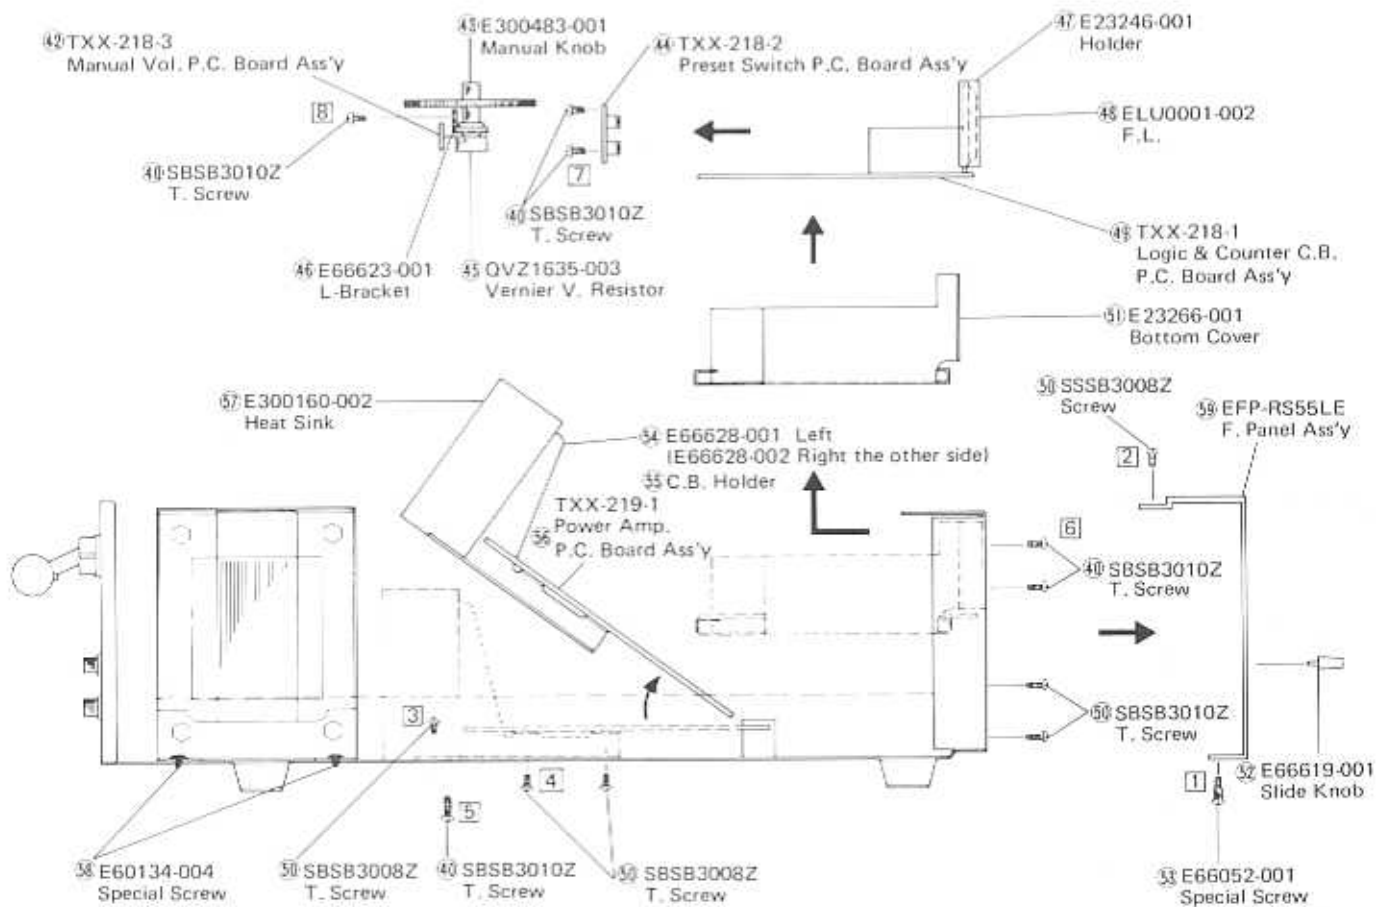

Fig. 6
1. Remove 3 Screws **1** of Fig. 6
2. Remove 3 Screws **2** of Fig. 6
1. Remove 2 screws **3** of Fig. 6.
2. Remove 4 screws **4** of Fig. 6.
3. Remove 2 screws **5** of Fig. 6.
4. Pull the C.B. as shown Fig. 6 out.
2. Remove 6 screws [1] of Fig. 7 ([6] of Fig. 6) to take the Holder with this P.C. Board Ass'y
- Remove 3 screws [3] of Fig. 7, ([7] of Fig. 6)
- Remove 2 screws [4] of Fig. 7 ([8] of Fig. 6).